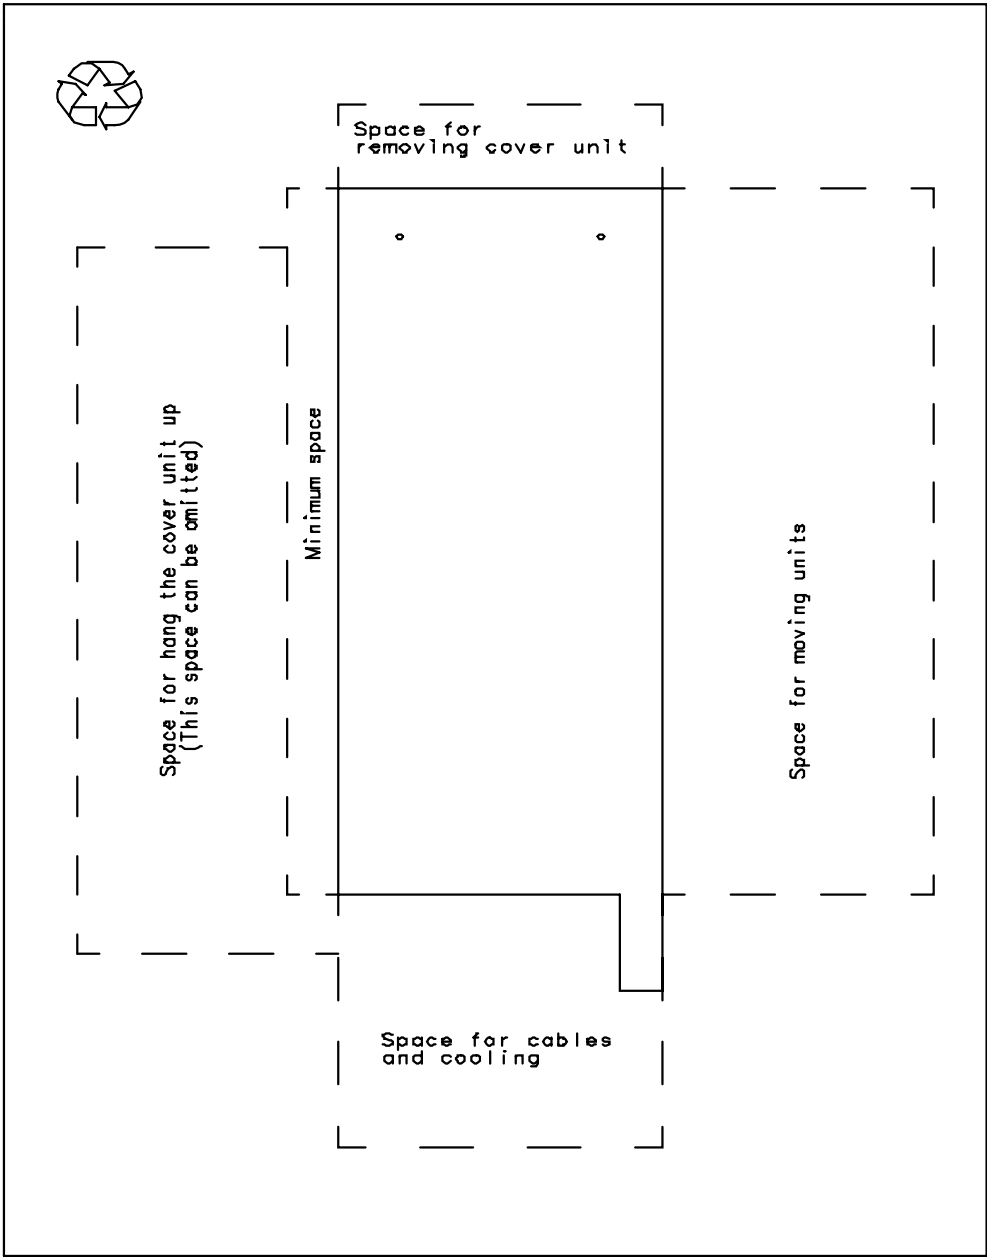

Figure 6. Cardboard template for aligning wall mounting screw holes
The mounting rack is attached to a suitable wall with screws and the BTS is then fixed to the mounting rack. Screw hole positions are marked out on the wall using the cardboard template which came with the BTS transportation package (see Figure 6). The required wall screws are provided by the installer, according to the specifications given in Table 6.
1. To define clearances required around the BTS, cut the template out of the packing cardboard by following the dotted line (see Figure 6).